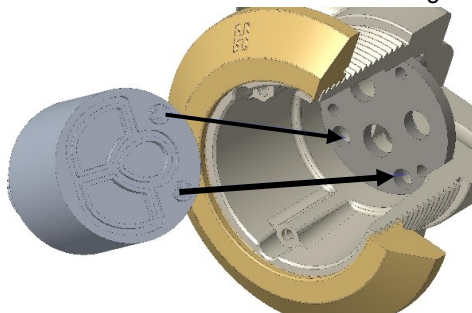

Fig .5
Step 5: When replacing the new cartridge. Pay fully attention on the 2 locking pins and the 2 guide holes (fig .5) they must be fully inserted and kept in place during the process to avoid leaking.